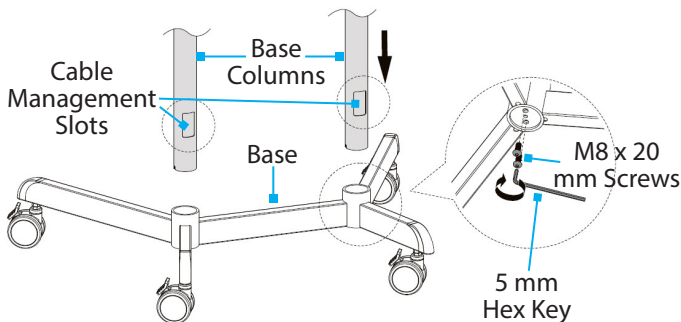

Figure 3
1. Insert the **Base Columns** into the **Base**. Press firmly to ensure the **Base Columns** have been fully inserted into the **Base**. (Figure 3)